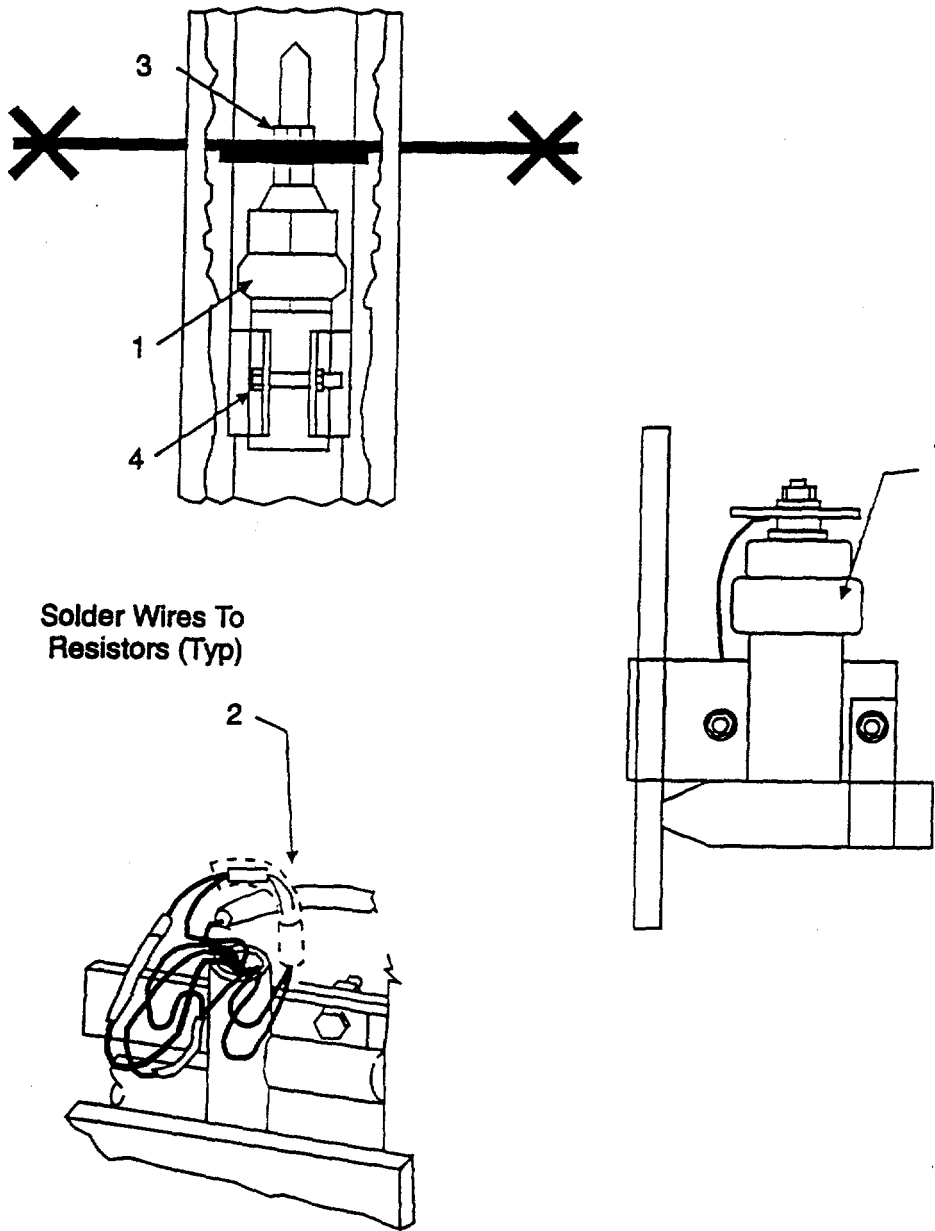

Figure 3-72. Removal and Replacement of Taut Wire 90 Fence Sensor
**3-127. REPLACE TAUT WIRE 90 FENCE SENSOR.** (Figure 3-72).